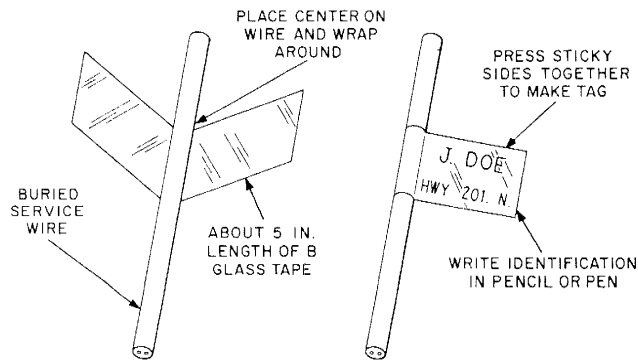

Fig. 1—Identifying Tags
1.06 Underground or service wires should be identified at terminations by means of tags made from B Glass Tape. Cut about 5 inches of glass tape and wrap it around the wire, pressing the sticky side against itself to make the tag. It can be readily marked with pencil or pen to designate the subscriber or to identify the route of the wire. These tags are shown in Fig. 1.